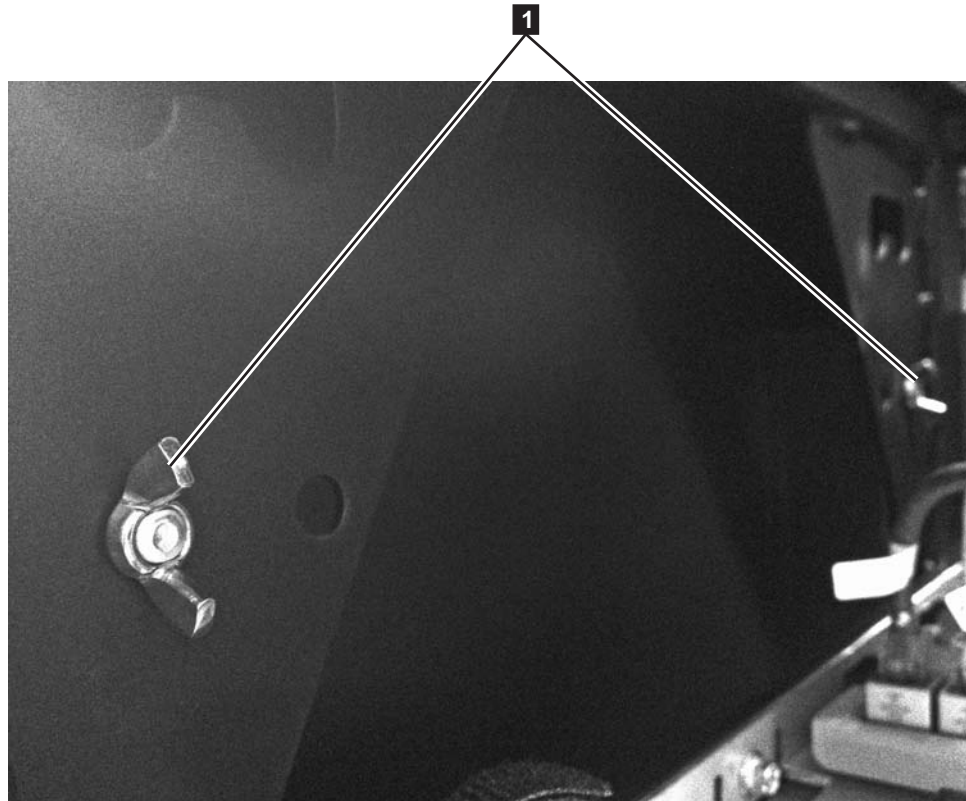

Figure 11. Wing screws securing the side panel
- ___ 4. From the back door opening, secure the side panel with two M6 x 20 wing screws **1** in Figure 11, making sure that cables are not pinched between the side panel and the frame. Wing screws are located in the same positions for the left and right panels. They attach through the outermost holes in the triangular corner braces. You may need a flashlight to visualize alignment, and may need to adjust the side panel slightly to align the holes.